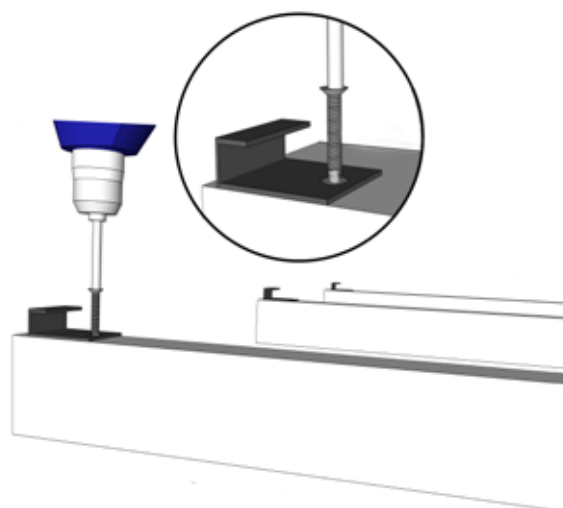

Figure 1
- 2 After locating the fastener, pre-drill the hole and install the first fastener (HLP M-037) as shown in Figure 1: